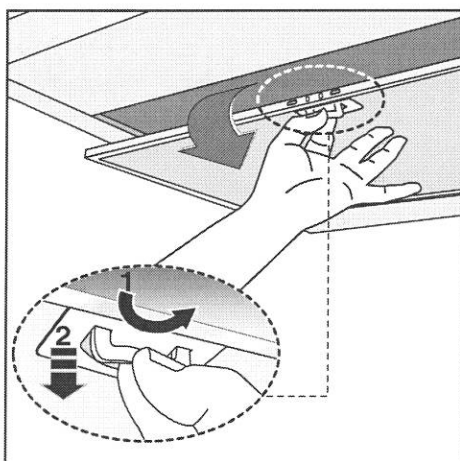

Fig.5
• If the hob is electric, gas, or induction, the minimum distance between the same and the lower part of the hood must be at least **65 cm**. If a connection tube composed of two parts is used, the upper part must be placed outside the lower part. Do not connect the cooker hood exhaust to the same conductor used to circulate hot air or for evacuating fumes from other appliances generated by other than an electrical source. Before proceeding with the assembly operations, remove the anti-grease filter(s) (Fig.5) so that the unit is easier to handle.